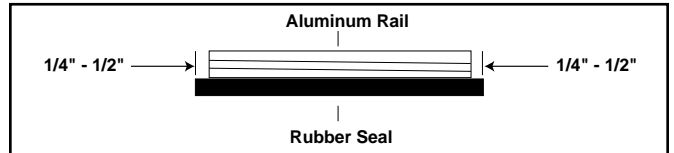

Fig. 5
- Unroll neoprene seal. Press 6" into the rail and use neoprene insertion tool to insert the remainder. Notch overhang as shown. See Fig. 5